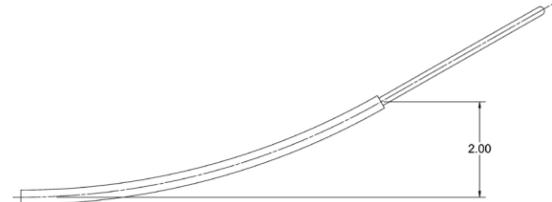

Figure 6
24. Typical procedures may require the following bend profile: See Figure 6.